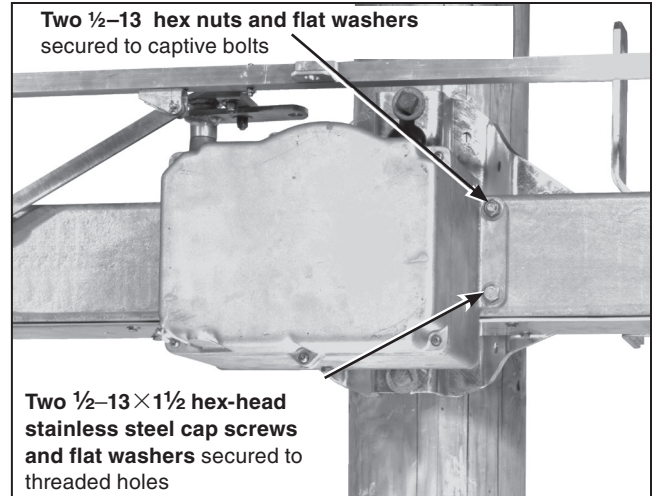

Figure 5. Removing the operating mechanism.
STEP 5. Remove the two $\frac{1}{2}$ -13 \times 1 $\frac{1}{2}$ hex-head stainless steel cap screws and flat washers that attach the mechanism to the switch base. Save the cap screws for reuse. Then, remove and discard the two $\frac{1}{2}$ -13 hex nuts and flat washers that also attach the mechanism to the switch base. Slowly remove the mechanism from the switch base, taking care not to damage the drive linkage still connected to the mechanism. See Figure 5.